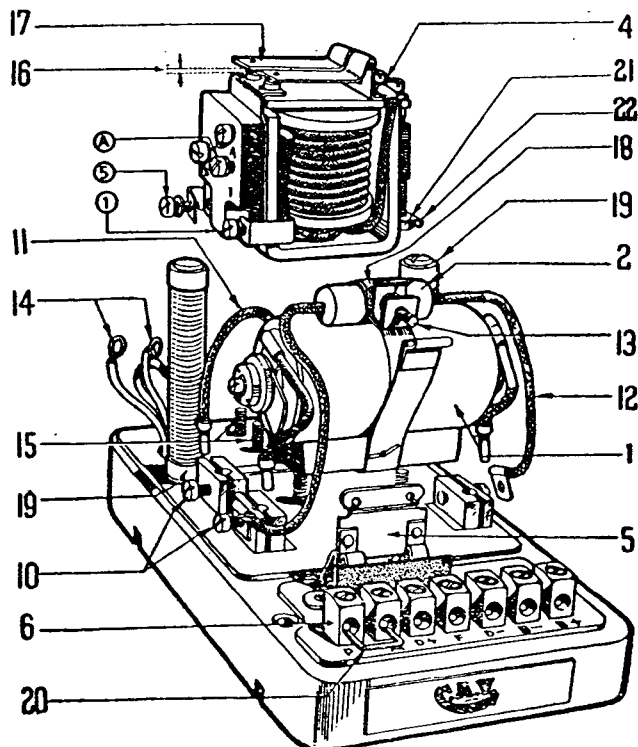

Fig. 20.
2. Description and Operation (Figs. 20 and 21.)
A condenser .020 mfd. capacity, is connected across the regulator terminals as illustrated in Fig. 20 for the purpose of suppressing interference with radio receivers.
**CONTROL BOARD—continued.****REGULATOR.****To replace Regulator complete (Fig. 20).**
- (a) Release all terminal screws (10).
- (b) Take out regulator leads (11).
- (c) Remove condenser leads (12).
- (d) Release cradle strap screw (13) and open strap.
- (g) Remove 3 connections (14) from terminals marked A, 5 and 1.
- (h) From back of board take out 4 screws (15).